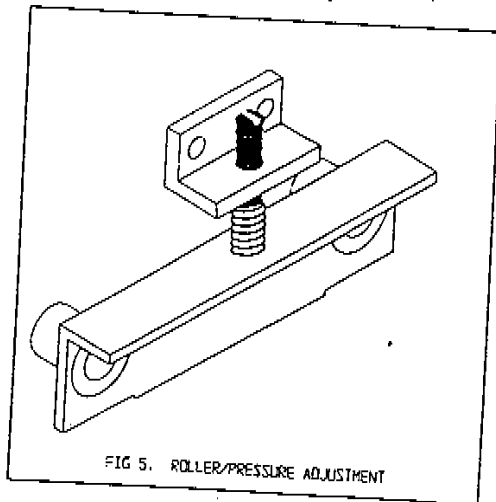

FIG 5. ROLLER/PRESSURE ADJUSTMENT
**Note:** Roller Pressure is factory pre-set. Adjust only if necessary. The roller pressure may need adjusting to accept thicker or thinner materials. If the need arises, the following procedure should be followed: Remove left and right housings from the laminator. Locate the pressure adjustment screws (as shown in fig. 5). Adjusting these screws up or down increases or decreases roller pressure. Whenever an adjustment is made to one side, it must also be done to the other side so that both sides apply equal pressure. The only time this is not true is when you are correcting for unequal pressure.